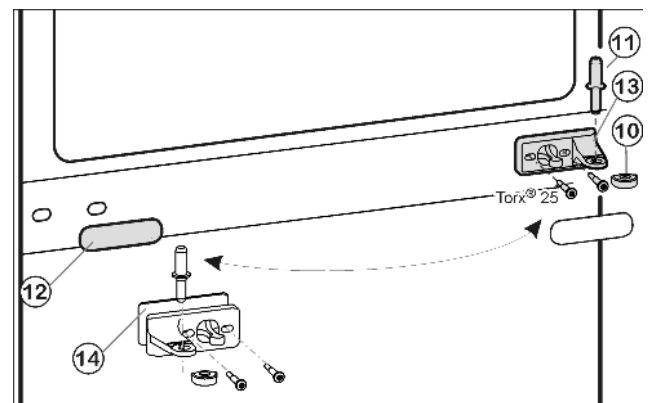
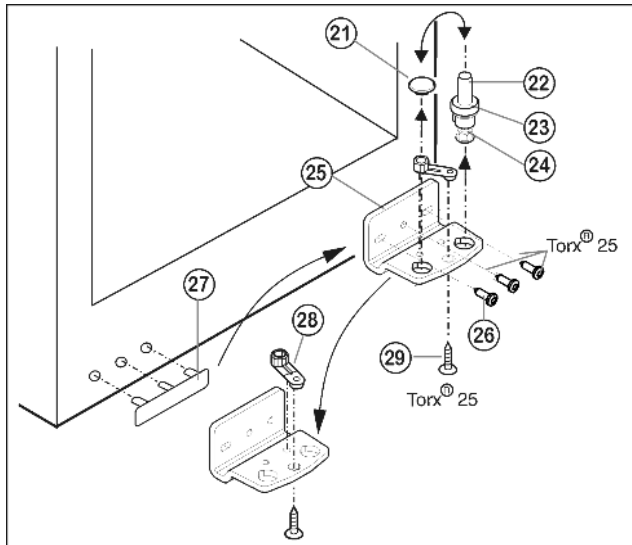

Fig. 6
Fig. 7
- ▶ Draw the middle bearing pin Fig. 6 (11) out of the turn hinge and lower door.
- ▶ Remove the plastic cap Fig. 6 (10).
- ▶ Unscrew the middle turn hinge (2x Torx® 25). Fig. 6 (13)
- ▶ Carefully detach the cover panel Fig. 6 (12).
- ▶ Turn the middle turn hinge Fig. 6 (13) with the washer Fig. 6 (14) through 180° and screw it firmly into place on the new hinge side (**with 4 Nm**).
- ▶ Turn the cover panel Fig. 6 (12) through 180° and snap it into place again on the new handle side.
- ▶ Lift out the bearing pin Fig. 7 (22) together with washer Fig. 7 (23) and foot Fig. 7 (24).
- ▶ Lift off the stopper Fig. 7 (21).
- ▶ Unscrew Fig. 7 (26) the turn hinge Fig. 7 (25).
- ▶ Unscrew Fig. 7 (29) the bearing element Fig. 7 (28), transfer it to the opposite location hole of the turn hinge and screw it firmly into place.
- ▶ Carefully lift off the cover on the handle side Fig. 7 (27) and transfer it to the opposite side.
- ▶ Screw the turn hinge Fig. 7 (25) firmly into place on the new hinge side, possibly using a cordless screwdriver (with 4 Nm).
- ▶ Re-insert the stopper Fig. 7 (21) into the other hole.
- ▶ Re-insert the bearing pin Fig. 7 (22) together with washer and foot. In so doing, pay attention that the locating lug points backwards
- ▶ Place the lower door from above onto the lower bearing pin Fig. 7 (22).
- ▶ Place the plastic cap Fig. 6 (10) back onto the middle turn hinge Fig. 6 (13).
- ▶ Place the middle bearing pin Fig. 6 (11) in the lower door, on the new hinge side, through the middle turn hinge Fig. 6 (13).
- ▶ Place the upper door on the middle bearing pin Fig. 6 (11).
- ▶ If necessary, align the doors to the appliance housing by way of the two oblong holes in the bottom turn hinge Fig. 7 (25) and middle turn hinge Fig. 6 (13). To do so, unscrew the middle screw in the bottom turn hinge Fig. 7 (25).